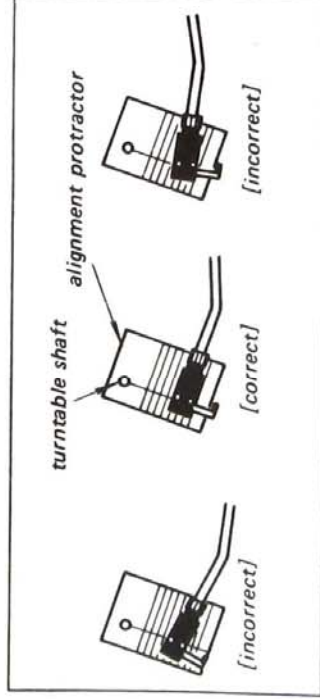

Fig. 2-12. Overhang adjustment
- e) Check to see that the shell head is parallel to the thick lines drawn on the Alignment Protractor as shown in Fig. 2-12. When they are parallel, the stylus overhang is set correctly.